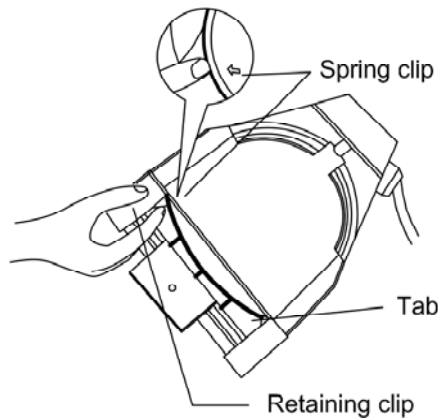

Fig. 5
2. Position the fixture with the frontside of the unit (Lens Side) facing you. Then tilt its head slightly (Fig. 5).
5. Press the spring clip with your fingers to release the lens (Fig. 5).